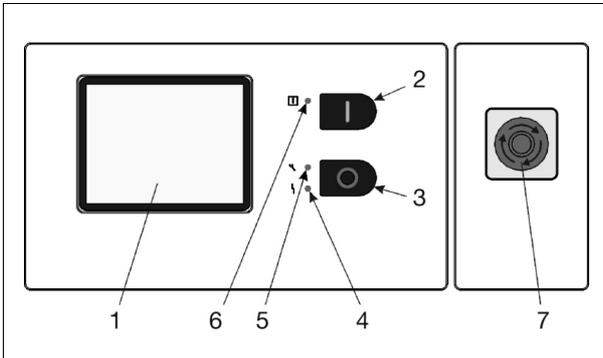

Fig. 16
**With a wrong direction of rotation, shut down the unit immediately by pressing the emergency STOP button (-7- Fig. 16) (not the [O]), otherwise the compressor may be seriously damaged, even during short periods of operation.**
- Press the START button [ I ] (- 2 - Fig. 16) and **immediately** check the direction of rotation. With a wrong direction of rotation, **immediately press the emergency STOP button** (-7- Fig. 16) and correct the direction of rotation.
*For switching the compressor off "normally", use only the stop push-button (- 3 - Fig. 16), but not the EMERGENCY STOP push-button (- 7 - Fig. 16). After shutdown the compressor has a run on time of 30-50 seconds (soft-stop).*
- Press START button [ I ] (- 2 - Fig. 16).
- To switch off the compressor in the usual way use the STOP button (- 3- Fig. 16) and not the emergency STOP button (-7- Fig. 16). After shutdown the compressor has a run on time of 30-50 seconds (soft-stop). The time remaining is counted down on the display.
To switch off the compressor use the O key (-3- Fig. 16) and not the EMERGENCY STOP button. After shutdown the compressor has a run on time of 30-50 seconds (soft-stop).
The EMERGENCY STOP button is situated next to the DELCOS XL. It is used to immediately shut down the unit. Only use the EMERGENCY STOP button (-7- Fig. 16) to shut down the unit in emergencies. When shutting down normally, always use the [O] key.